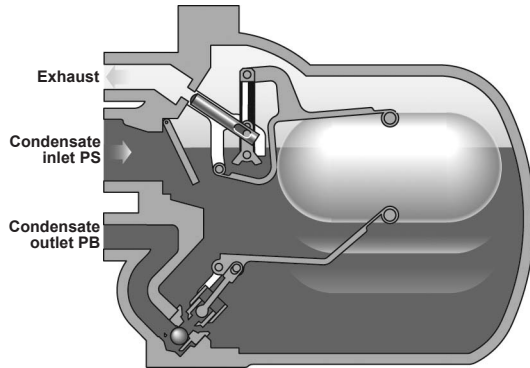

Fig. 7
Step 2 (Fig. 7)
With some temperature controlled equipment, it is possible for the system pressure PS to be lower than the backpressure at PB (Fig. 7). If this occurs a standard trap will stall allowing the condensate to flood the equipment being drained.